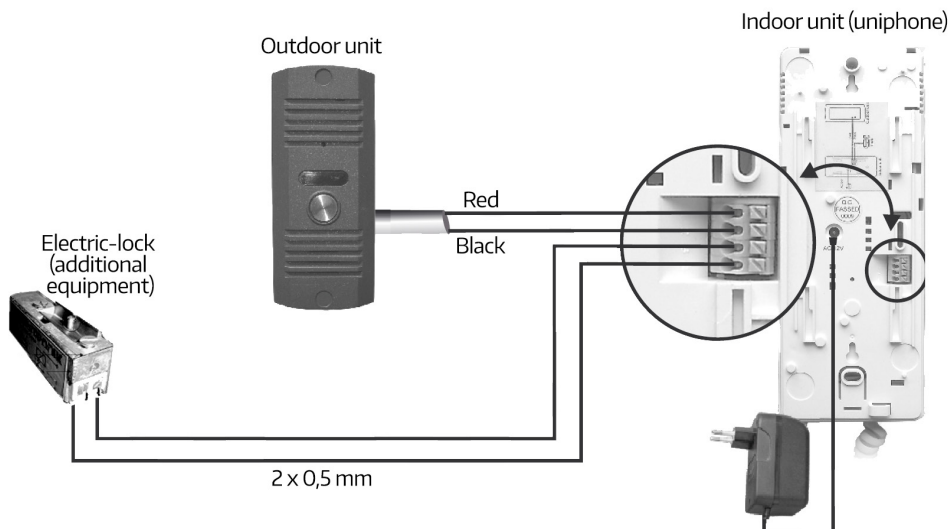

fig. 6.
5. Connect the cable correctly as showed in fig. 6.
Fig. 6 shows the wiring diagram of: outdoor unit, indoor unit, electric-lock and power supply.